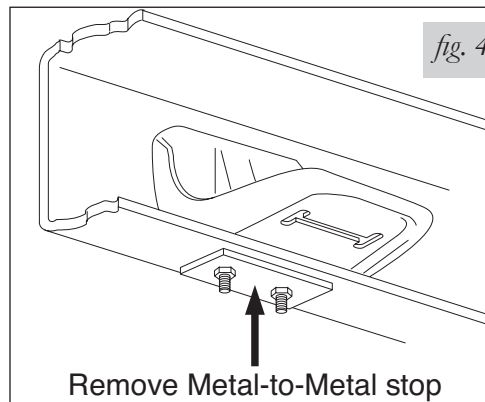

fig. 4
- Remove the two nuts and bolts holding the metal to metal stop to the frame (Figure 4). Discard these parts. Replacement nuts and carriage bolts are provided.